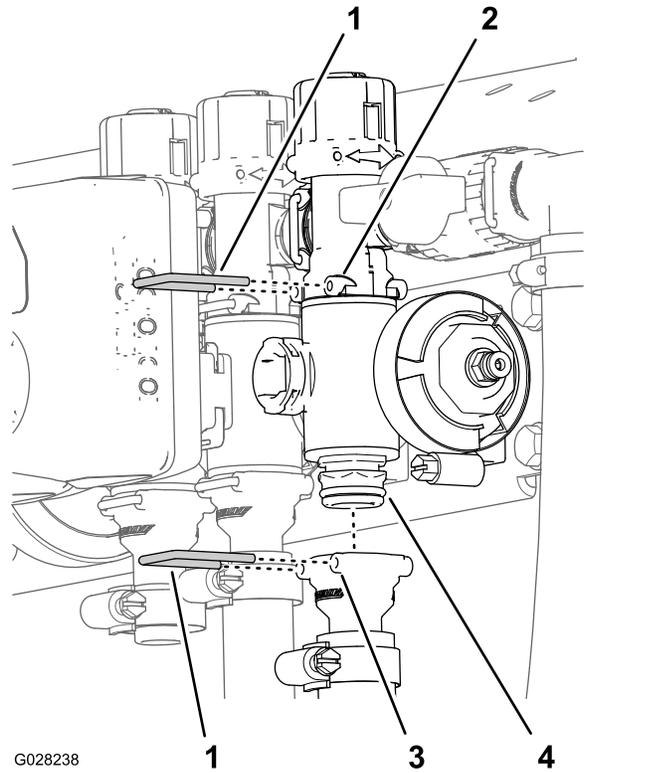

Figure 69
2. Remove the retainers that secure the outlet fitting to the section-valve manifold and the valve manifold to the bypass fitting (Figure 69).